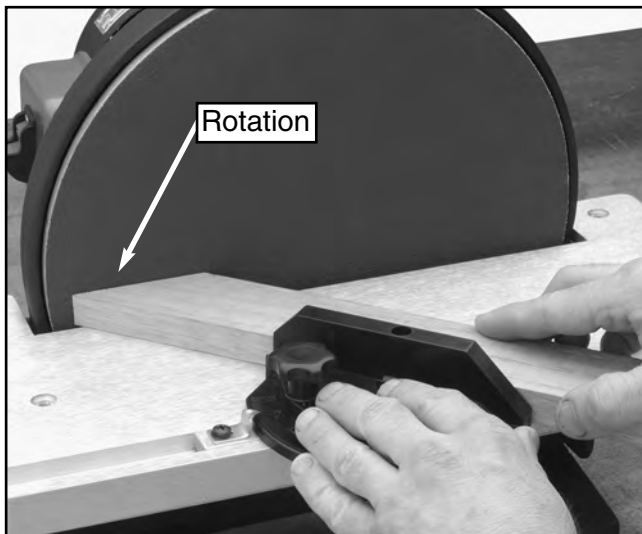

Figure 9. Mitering with gauge angled.
3. With light, but firm pressure, push the workpiece slowly into the downspin side of the rotating disc (**Figure 9**).